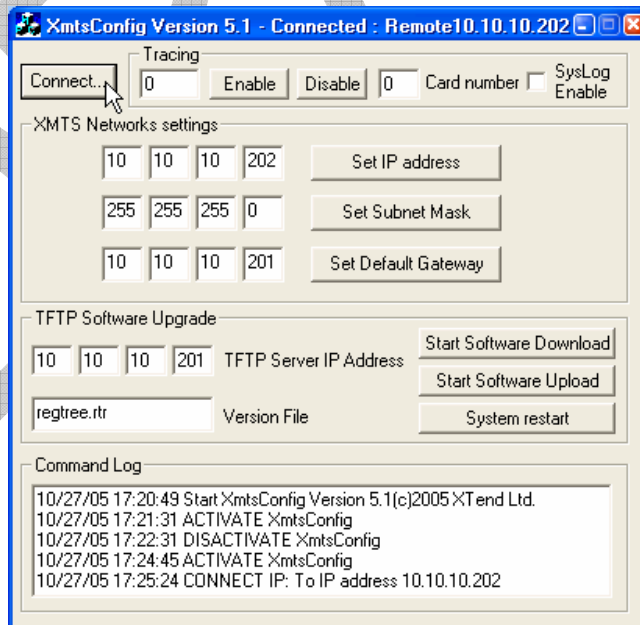

Figure 17: Active WMTS Configuration Tool
1. While the application is active, click **Connect** (see Figure 17).